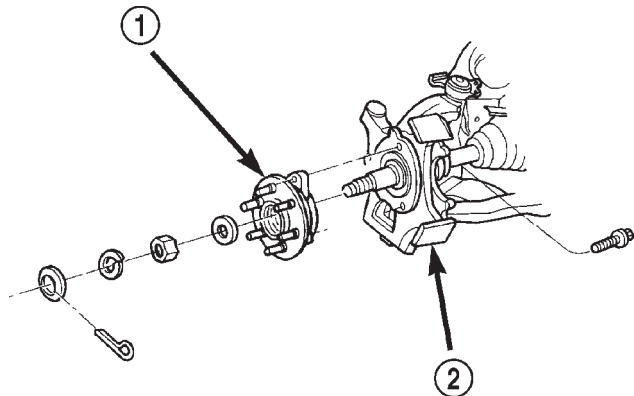

Fig. 14 Hub/Bearing
(1) Raise and support vehicle.
(2) Remove wheel and tire assembly.
(3) Remove axle nut.
(4) Remove ABS wheel speed sensor if equipped, refer to Group 5 Brakes.
(5) Remove the brake caliper and rotor, refer to Group 5 Brakes.
(6) Remove hub/bearing mounting bolts from the steering knuckle (Fig. 14).